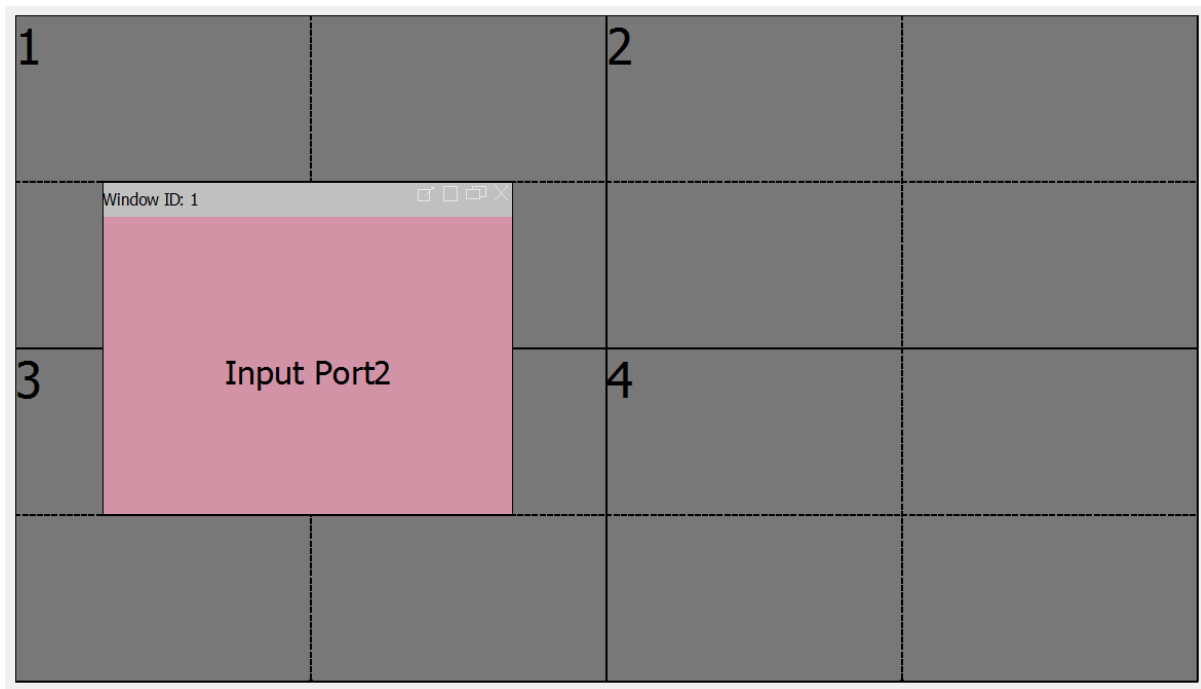

Figure 43: Image present in screens 1 & 3
- The next option is the zoom to the screen option, this will make the image fill any screens of which part of the image is visible in. Let us say we have the image positioned as below in figure 43